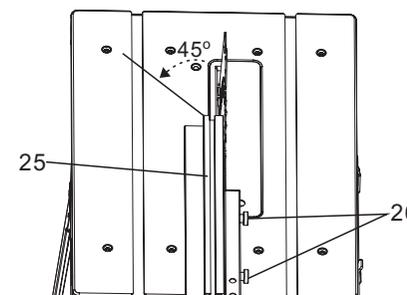

Fig. 17
3. Setting the stop length (Fig. 17)